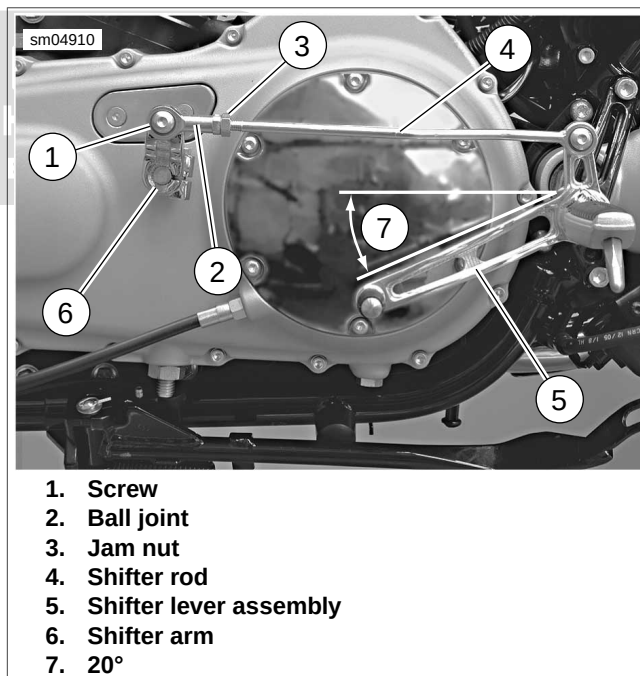

Figure 2-262. Adjusting Shift Pedal: XR Models
See Figure 2-262. Adjust shifter rod assembly (4) length until shifter lever assembly (5) is at approximately 20° from horizontal as shown in the figure.
1. Loosen jam nut (3) on front end of shifter rod.
2. Remove screw (1) securing ball joint (2) to shifter arm (6).
4. when angle of shift lever assembly is at 20°, install screw (1). Tighten to 120-180 **in-lbs** (13.6-20.4 Nm).